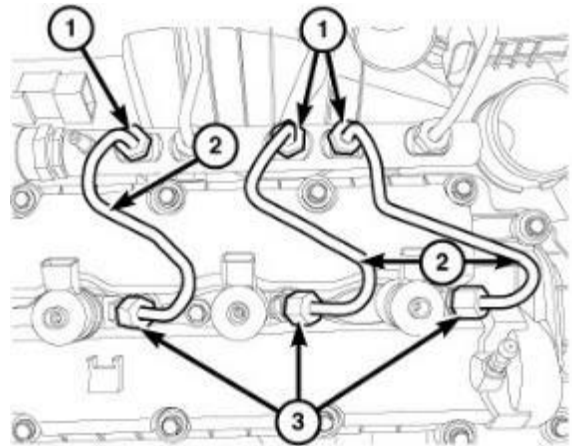

Figure 46 - Fuel Tubes (Left side shown right side similar)
17. Unscrew the union nuts (1) and (3) and remove and discard the left and right side fuel tubes (2) (Figure 46).